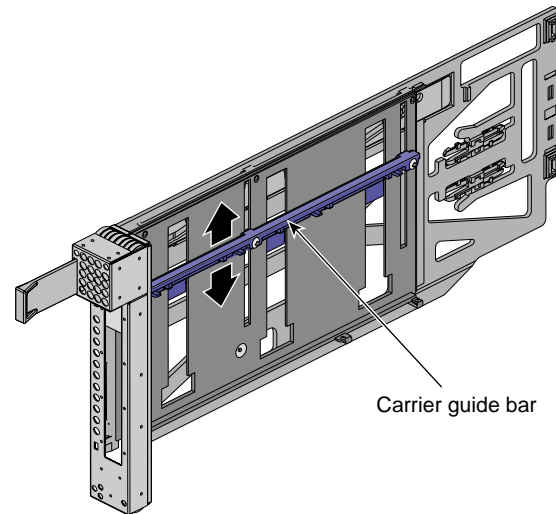

Figure 12-3 Adjusting the Carrier Guide Bar
- b. Adjust the carrier guide bar (also known as the alignment rail) up or down as necessary (see Figure 12-3).